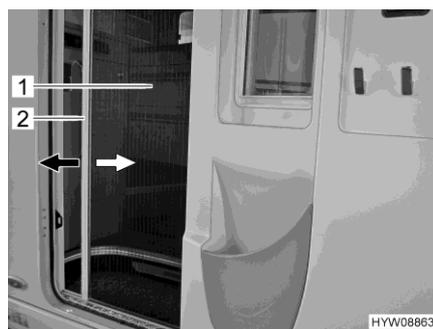

Fig. 53 Insect screen (conversion door)
- Hold holding bar (Fig. 53,2) with both hands and pull the insect screen (Fig. 53,1) evenly out of the door holder.
- Hold holding bar (Fig. 53,2) with both hands and push the insect screen (Fig. 53,1) back into the door holder applying slight pressure.